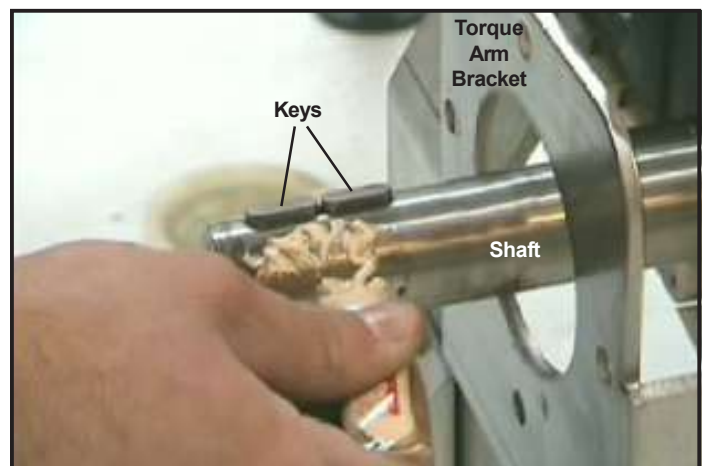

Figure 35: Apply anti-seize compound
- Apply a liberal amount of anti-seize compound to the outside of the drive shaft (*Figure 35*).
- Verify that the key is in place on the drive shaft (*Figure 35*).